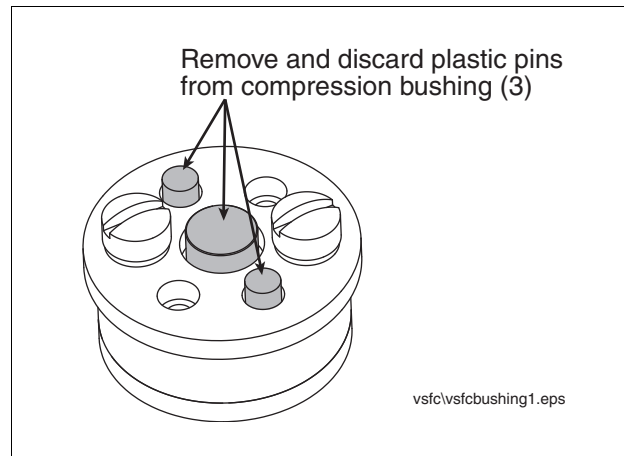

Figure 16. Compression Bushing
2. If necessary loosen the two screws in the top of the compression bushing until you can lift it out of the manifold(see Figure 16).